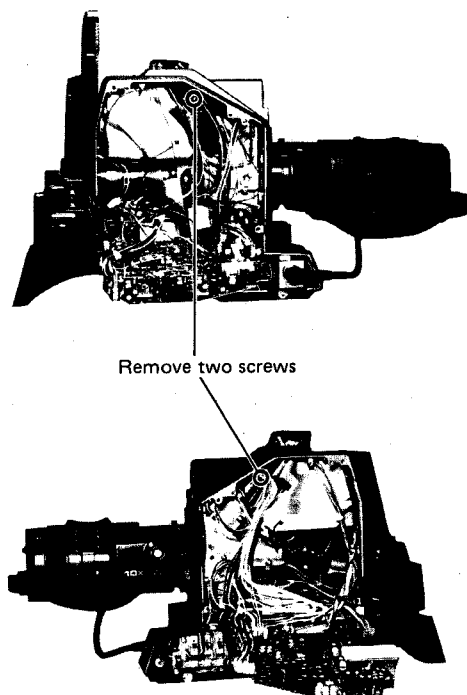

Fig. 3-1-6
- o Remove two screws which hold the shield cover A and B and remove the shield cover A and B. (Fig. 3-1-6)